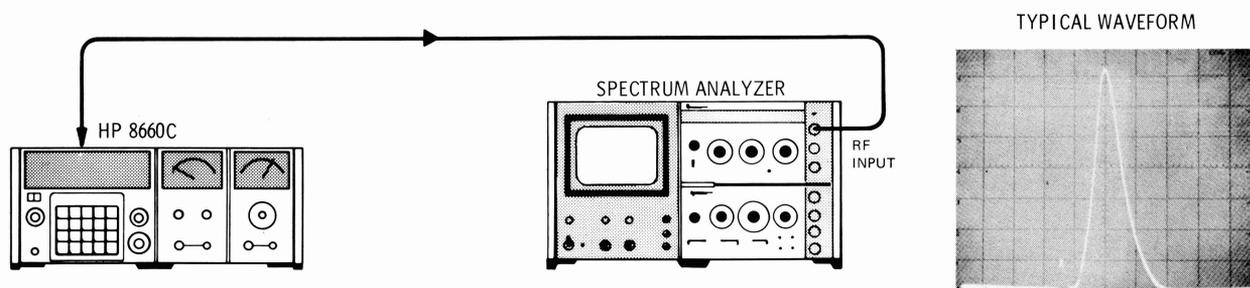

Figure 5-5. RF Level Checks Test Setup
- d. Connect the Spectrum Analyzer RF INPUT to the 100 MHz output of the A4A4 assembly and tune the Spectrum Analyzer CENTER FREQUENCY to 100 MHz. The 100 MHz signal should be $>+10$ dBm (see Figure 5-5).
- a. Connect the Spectrum Analyzer RF INPUT to the 500 MHz output connector on the A4A4 assembly and tune the analyzer to 500 MHz. Set the analyzer scan width to 50 MHz per division and other analyzer controls for a clear display (see Figure 5-5).